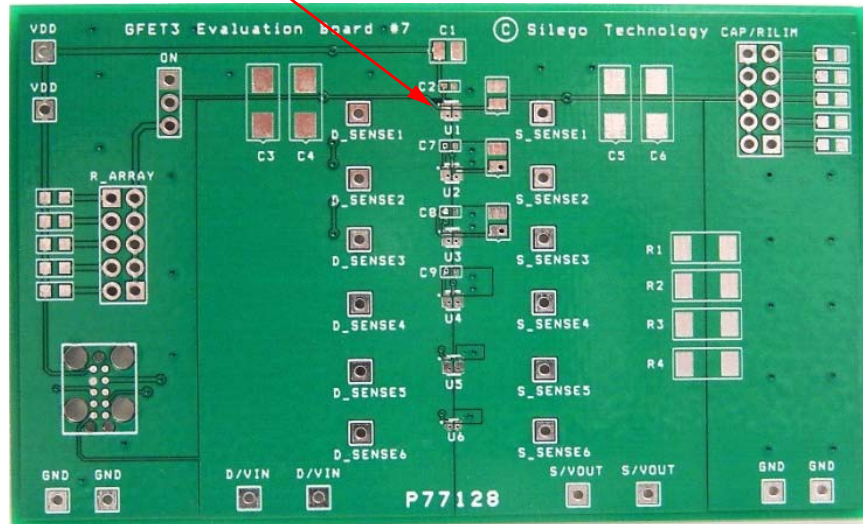

Figure 1. SLG59M1545V Evaluation Board.
2. Since the D and S pins dissipate most of the heat generated during high-load current operation, it is highly recommended to make power traces as short, direct, and wide as possible. A good practice is to make power traces with absolute minimum widths of 15 mils (0.381 mm) per Ampere. A representative layout, shown in Figure 1, illustrates proper techniques for heat to transfer as efficiently as possible out of the device;
A GFET3 Evaluation Board for SLG59M1545V is designed according to the statements above and is illustrated on Figure 1. Please note that evaluation board has D_Sense and S_Sense pads. They cannot carry high currents and dedicated only for RDS_{ON} evaluation.